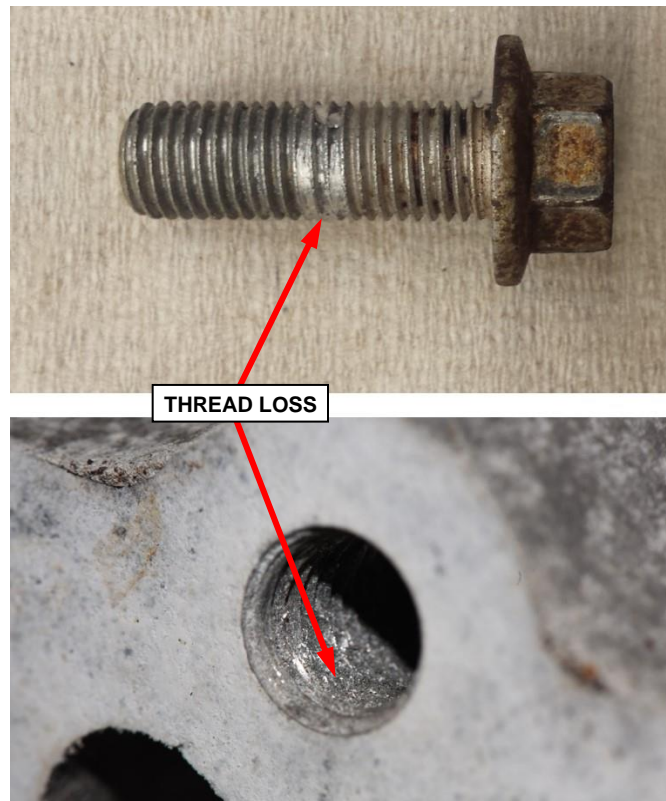

Figure 18 – Inspect for Thread Loss
NOTE: Pay attention to the bolts for signs of thread loss or bolt breakage as they are removed and note which hole they came from (Figure 18).
26. Inspect the bolts and bolt holes for any signs of thread loss then **DISCARD** the bolts (Figure 18).